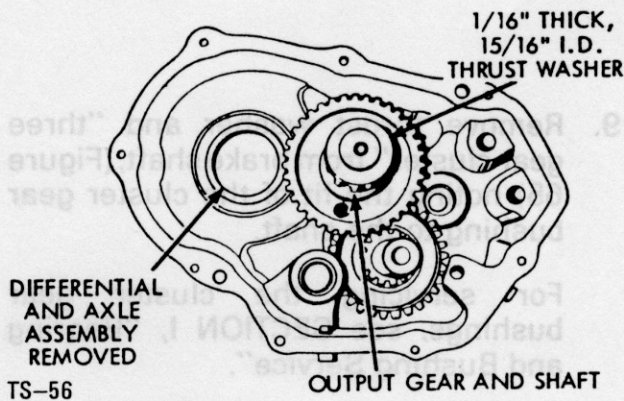

Figure 68 - Output Gear and Shaft
14. Remove the output shaft and gear (Figure 68) and the thrust washers from each end of the shaft.